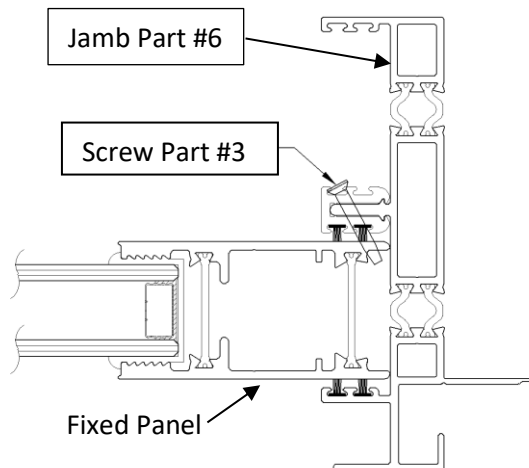

Figure 12a
15. Install the fixed panel into the exterior jamb track (Part #6). Secure fixed panel to the frame with the 2 screws (Part #3) provided in the hardware box (use sealant to lubricate screws). Screw through the pre-drilled holes in the center weather strip track of the jamb at 24" above the sill and 24" below the head as shown in figures 12a and 12b. For false jamb installation on OXO doors, see Appendix A.